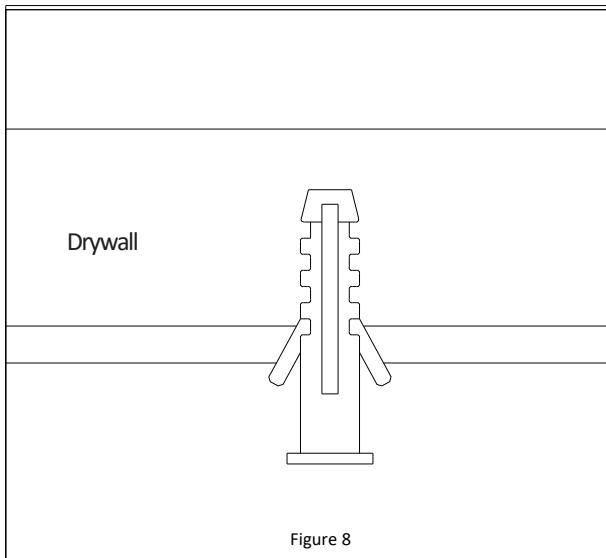

Figure 8
4. Install the 4 supplied wall anchors into the 4 pilot holes made in the previous step. *See Figure 8.*